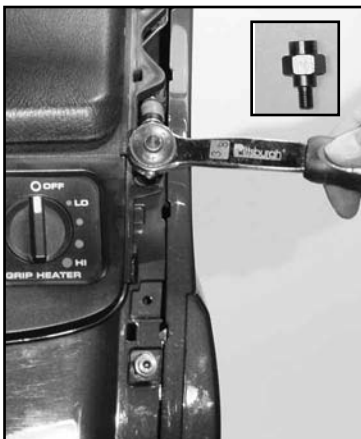

Figure 3
4. Apply a small amount of Thread Lock to the threaded side of the Standoffs. Replace the screws removed in Step 3 with these threaded fasteners. Tighten securely. **4 ft/lb (5.4 Nm) (1/2" Socket, Thread Locker) Figure 3**